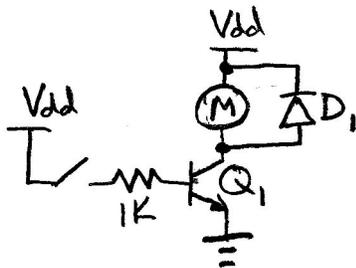

Figure 4.2. Simple transistor switch for a DC motor. $Q_1 = 2N3904$, $D_1 = 1N5817$
You may recall from ENGR 170 that the Basic Stamp's I/O pins can provide as much as 20 mA of current at 5 volts. Compare this to the no-load motor current you measured in Activity 0. Obviously, you can't connect the motor directly to the microcontroller and expect anything to happen. Instead the microcontroller must control the current indirectly, for example, using a transistor as a switch (Figure 4.2).
1. Build the circuit shown in Figure 4.2. Use a simple wire touching and untouching V_{dd} to act as the switch. The motor should turn on and off as you touch and untouch the wire.